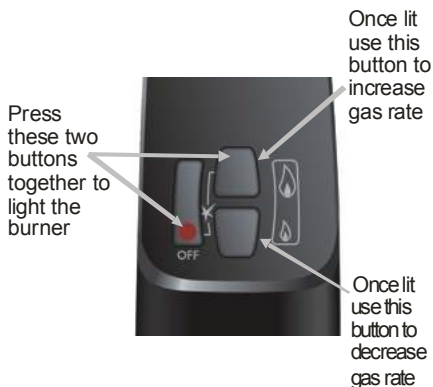

Figure 15
2. Simultaneously press and hold the  (red circle) and  (large flame) buttons until a short acoustic signal confirms the start sequence has begun, then release the buttons (see **Figure 15**).
4. To adjust the gas rate to desired setting press the  (large flame) to increase the flame height or  (small flame) to decrease the flame height on the handset (see **Figure 15**).